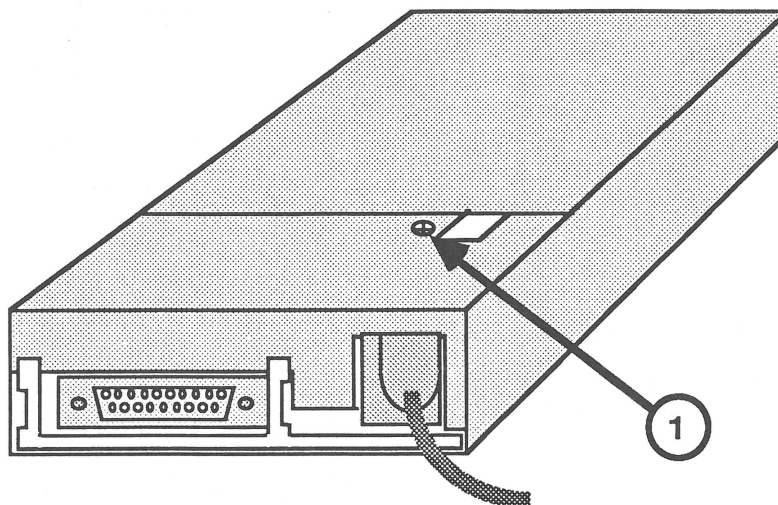

FIGURE 4
2. Remove the screw on the external drive cable shield (Figure 4, #1).
4. Replace the screw on the external drive cable shield (Figure 4, #1).